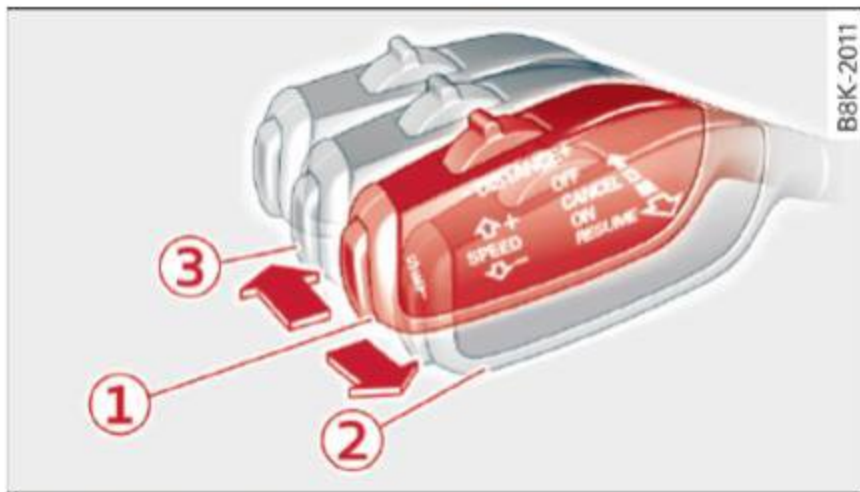

Fig. 99 Selector lever
Requirement: adaptive cruise control must be switched on ⇒ *fig. 99 (1)*.